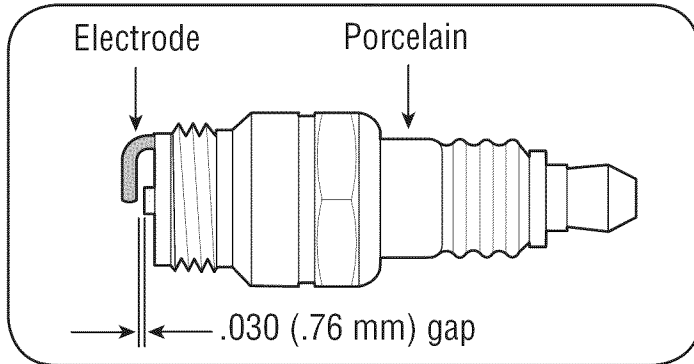

Figure 11
2. Remove and inspect the spark plug. Check gap to make sure it is set at .030". See Figure 11.